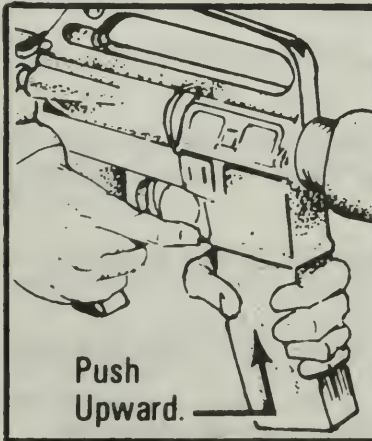

Figure 96. Magazine inserted.
e. Insert the magazine and push upward until the magazine catch engages and holds the magazine (Figure 96).